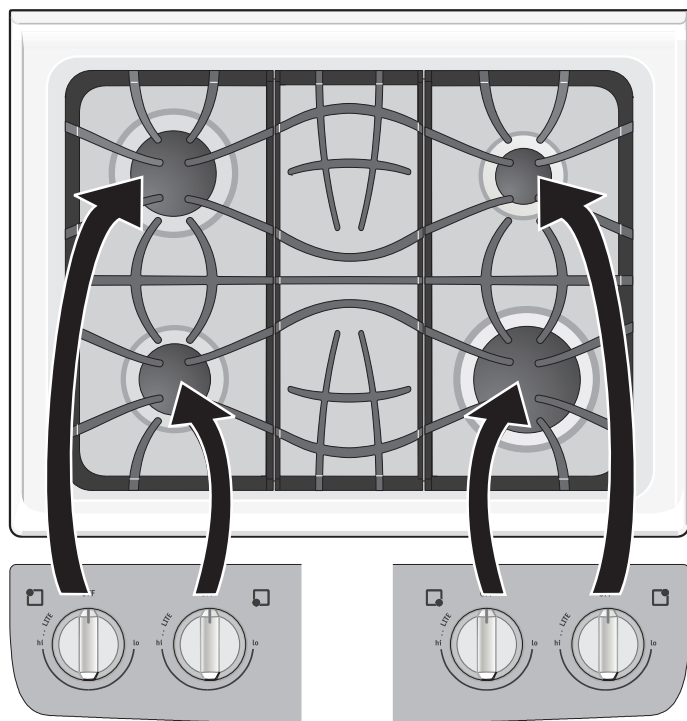

Figure 1 - Model A
The small SIMMER burner is best used for simmering delicate sauces, etc. This burner is located at the right rear burner position on the cooktop (see Figures 1 & 2).
The STANDARD burner can be used for most surface cooking needs. The standard burner is located at the left front position on the cooktop (see Figures 1 & 2).
The POWER burners are best used for bringing large quantities of liquid rapidly up to temperature or when preparing larger quantities of food. The POWER burners are located at the right front and left rear burner positions on the cooktop (see Figures 1 & 2).
3. Release the knob and rotate to the LITE position (see figures 1 & 2). Note: All four electronic surface igniters will spark at the same time. However, only the burner you are turning on will ignite.